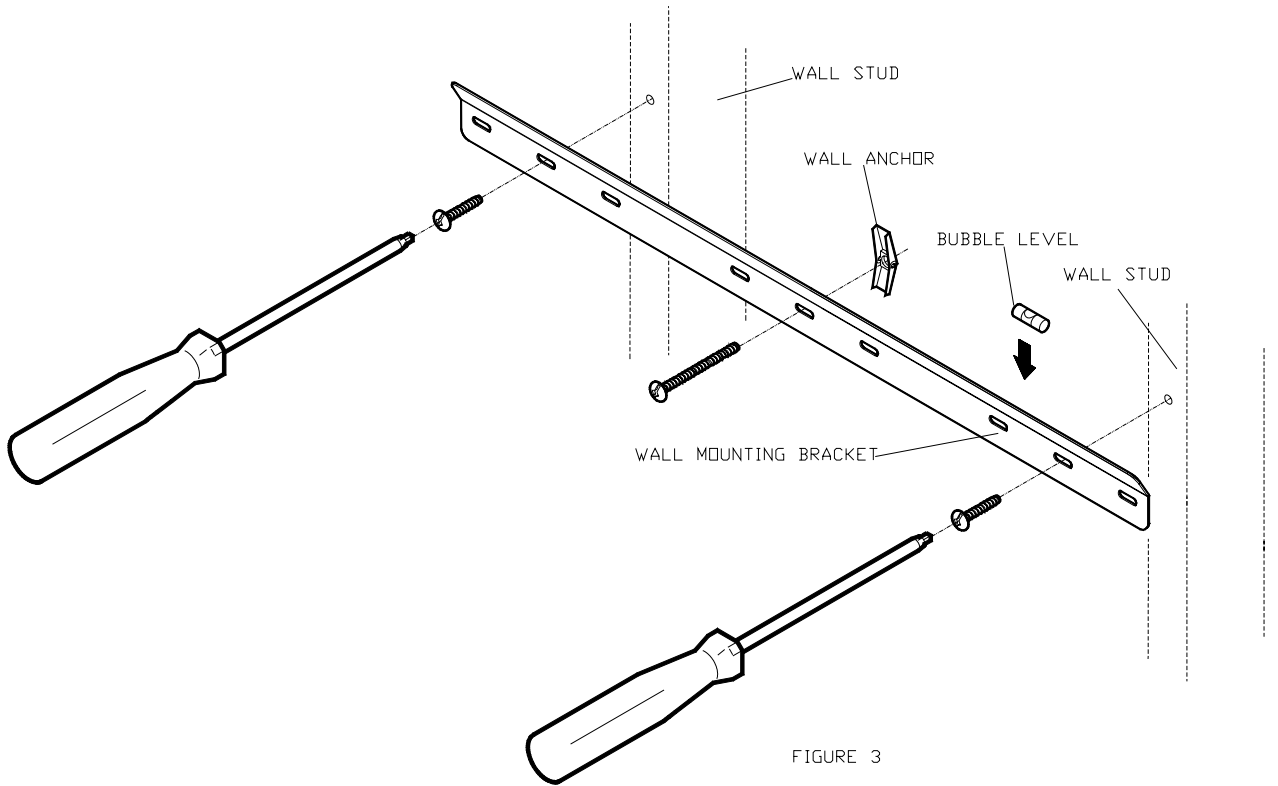

FIGURE 3
The wall mounted electric fireplace requires the wall mounting bracket screws to be installed into a minimum of one wall stud. (FIGURE 3 & 4)
5. The wall-mounting bracket must be mounted to at least one wall stud (FIGURE 3) or into two wall studs (FIGURE 4)
6. When installing into two studs the wall anchor must be installed into the center location as indicated in FIGURE 3.
9. Install the bubble level onto the top of the wall-mounting bracket. (FIGURE 3 & 4).